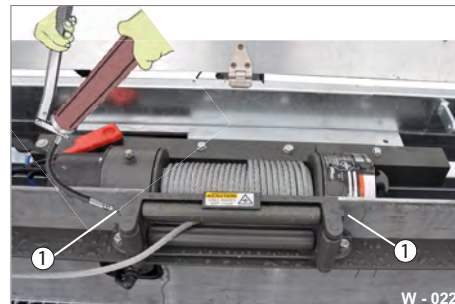

Fig. 26 Example: Lubricate guide pulleys
- ▶ Using a grease gun, grease the guide pulleys on the lubrication nipples (Fig. 26/1) until grease emerges.